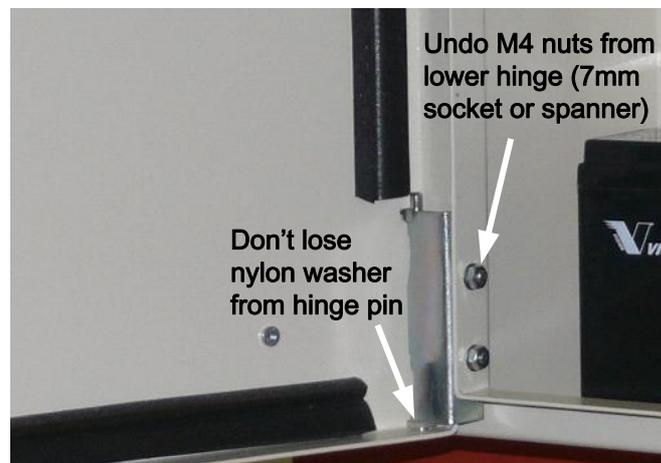

Figure 3 – Removing the hinge to release the door
5. Undo the nuts holding the lower door hinge as in Figure 3, and remove it, taking care not to lose the nylon washer on the lower pin.